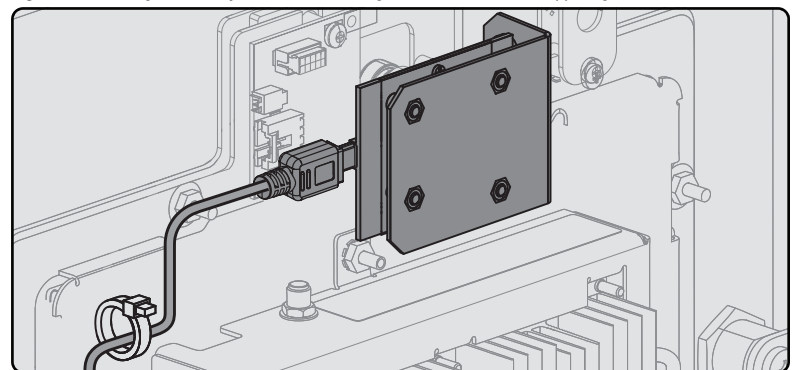

Figure 2. Routing the USB cable.
7. Route and secure USB cable with included tie-wraps. (Figure 2)